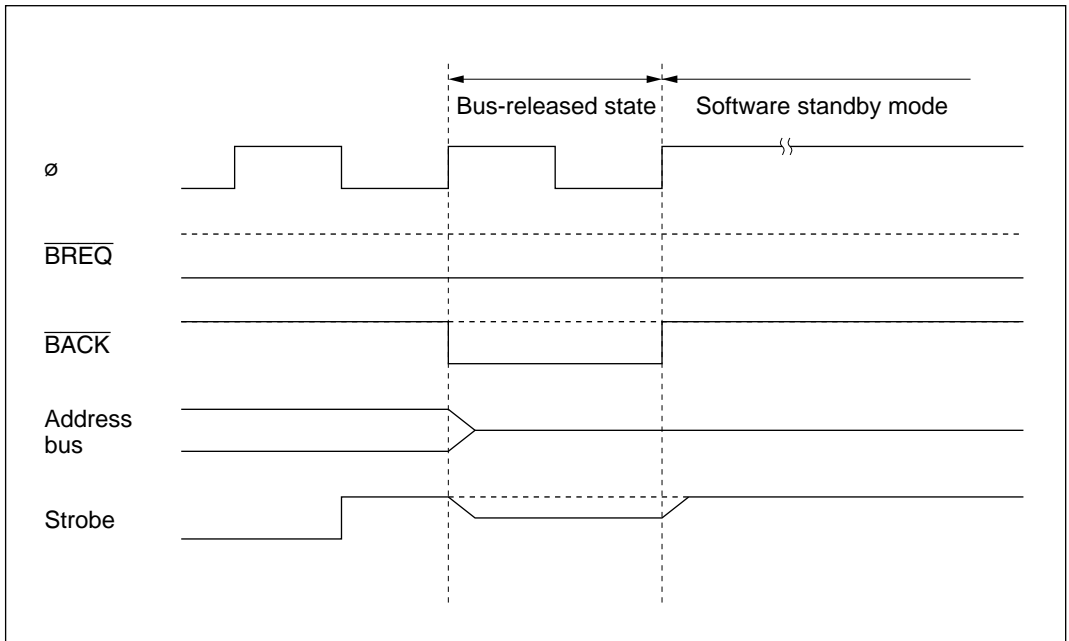

Figure 7-25 Contention between Bus-Released State and Software Standby Mode
- If contention occurs between a transition to software standby mode and a bus request from an external bus master, the bus may be released for one state just before the transition to software standby mode (see figure 7-25). When using software standby mode, clear the BRLE bit to 0 in BRCR before executing the SLEEP instruction.